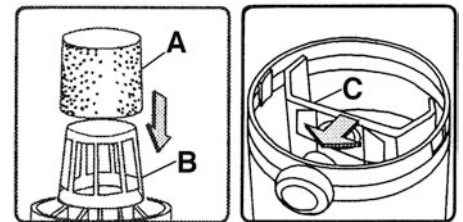

FIGURE 6
**When vacuuming dry materials**, to ensure proper filtration, the foam filter should be used when vacuuming coarse materials with low dust for maximum air flow. The re-usable filter can and should be used together with the foam filter when vacuuming coarse and dusty materials. Place the cover/motor assembly upside down, slide the foam filter (A) Fig.6 over the cage (B). Then slide the re-usable filter over the foam filter. Now the dust bag (C) must be installed to the inner portion of the inlet. Fit the dust bag flange over the inner inlet, taking care not to damage the dust bag.
**When vacuuming wet materials**, to ensure proper filtration, the foam filter must be installed. Place the cover/motor assembly upside down, slide the foam filter (A) Fig.6 over the cage (B).